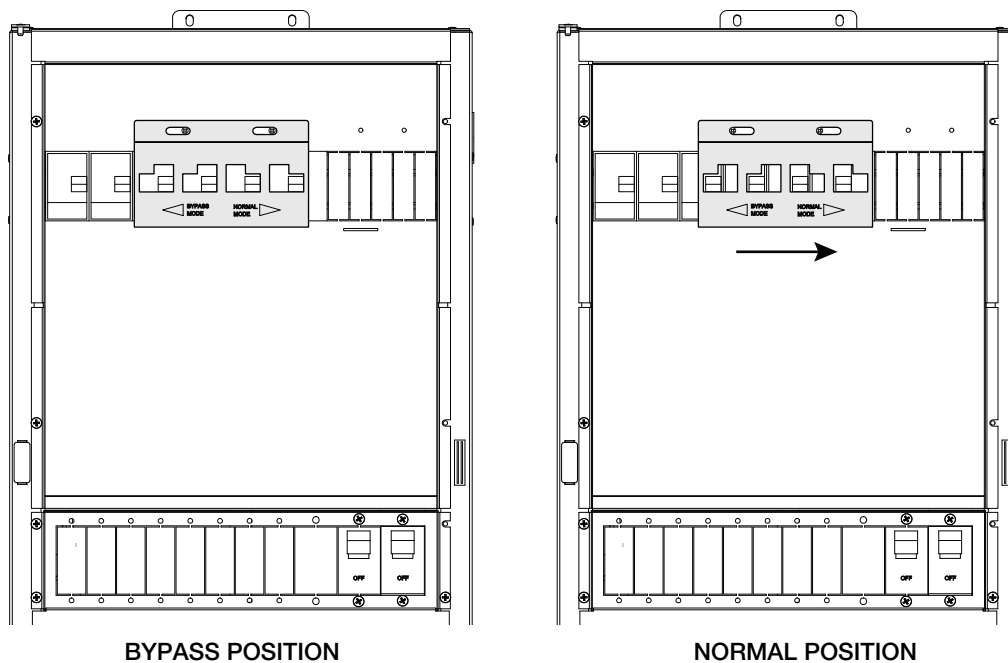

Figure 3-26 Installing the custom designed bypass interlock plate
6. Install the custom designed bypass interlock plate, as shown in Figure 3-26 on page 3–46.
2. Ensure the breakers are in the down position and place the bypass interlock plate over the breakers, as shown in Figure 3-26, and secure it in place with the hardware provided.
3. To set it in Normal position, slide the bypass plate to the right, as shown in Figure 3-26.
10. Install the custom designed bypass interlock plate, as shown in Figure 3-26 on page 3-46.